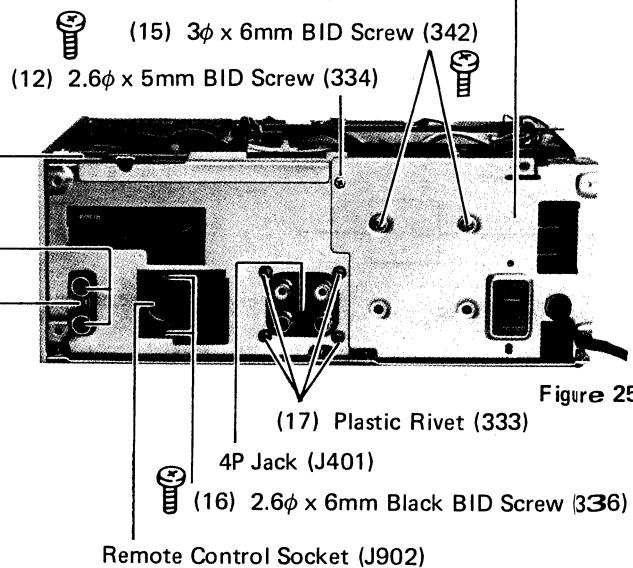

Figure 25.
2. Remove two screws (15) holding the power transformer with the mounting bracket as shown in Figure 25.
1. After removal of the transformer mounting bracket, remove two black screws (16) holding the remote control socket as shown in Figure 25 and the socket can be removed.
2. Remove four plastic rivets (17) and one screw (18) holding the 4P jack and the 2P jack as shown in Figure 25 and then each jack can be removed. The 2P jack is soldered with the Main P.C. Board (1/3).